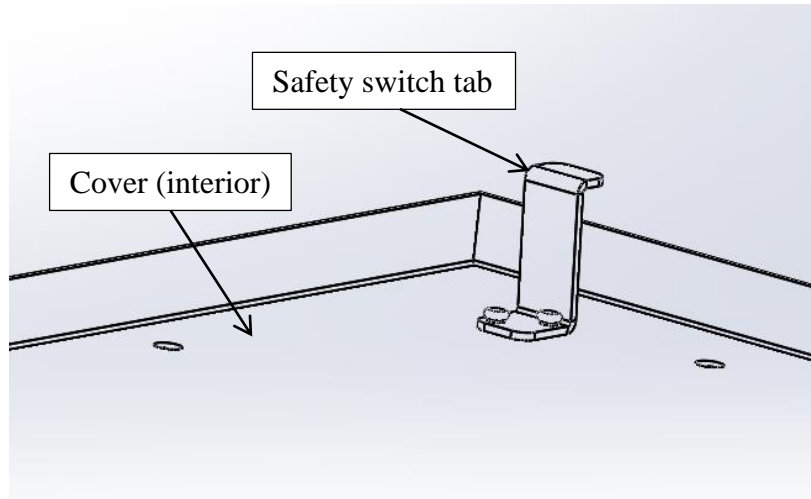

Figure 12: Cover tab shown in proper orientation for reassembly.
- 14) Replace the cover, ensuring that the thin metal safety switch tab is aligned with the slot located in one corner. Note: the tab is flexible, make sure it is oriented as shown in Figure 12 before replacing the cover.